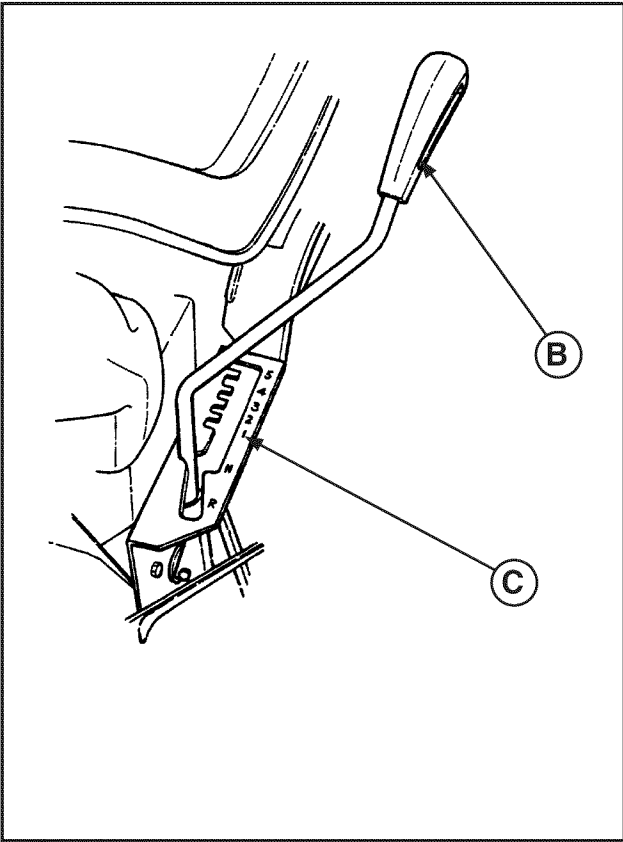

FIGURE 10
2. Place the transmission shift lever (B, Figure 10) into the first forward speed notch (C).
5. To stop the machine, fully depress the clutch/brake pedal. Shift to the Neutral (N) position.